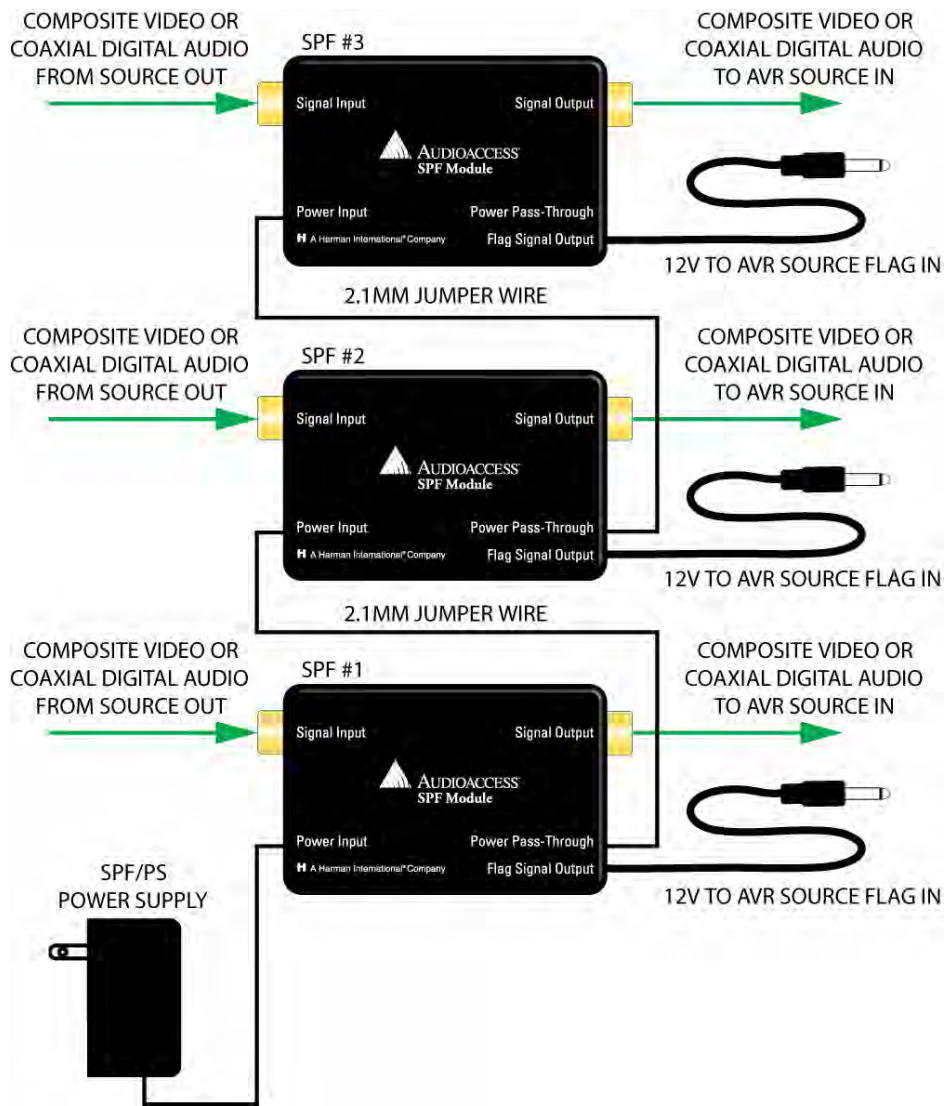

Figure 6 SPF Power Bus and Signal Flow
6. **Power Pass-Through:** Allows connection of a 'power bus' so multiple SPF's can be powered from one SPF/PS Power Supply. When multiple SPF's are used, ONE SPF/PS gets connected to the Power Input jack on the first SPF as shown in **Figure 6**. The Power Pass-